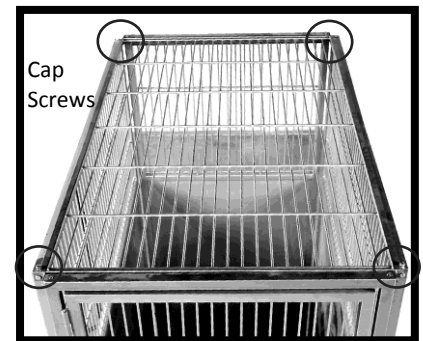

Figure 60: Replacing the Top Panel
1. With a 1/2in. wrench, remove the four cap screws from the tops of the end and partition panels (Figure 60). There are no cap screws in the swinging gate and back panel.